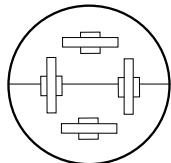
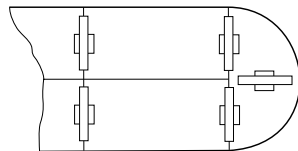

Figure 7
Figure 8
- Any two worksurfaces of equal depth (24"D, 30"D or 36"D) can be connected with one leg, at the connecting or end edges (**Figure 8**).
- Half round work surfaces can be used in the following ways: They must be of equal width when connected to each other (**Figure 7**) or the connecting shapes must be equal to half the width of the connecting half round (**Figure 8**).